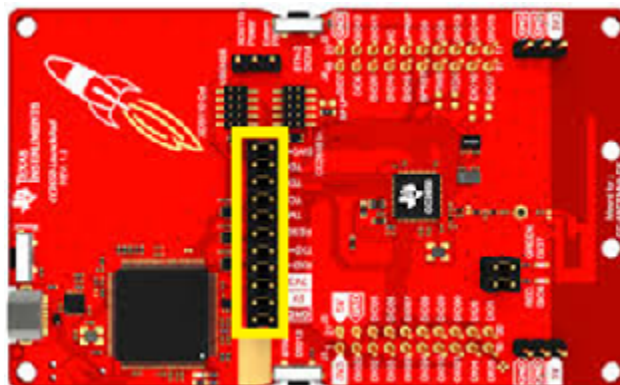

Figure 2. Jumpers to Remove on CC2650 LaunchPad
2. Ensure that the necessary jumpers are removed to isolate the XDS110 from the onboard CC2650 of the LaunchPad (see the yellow box in Figure 2). Also, verify that the XDS110 power jumper is selected to supply power to the CC2650 module.